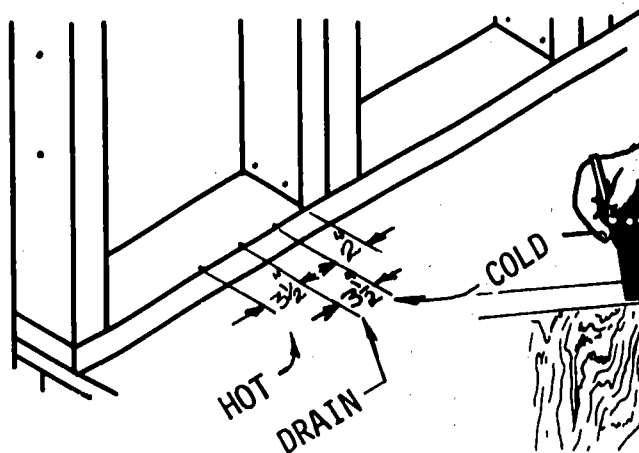

Fig. 97-1. Measuring for Pipes
1. Follow the procedures shown in Figs. 97-1, 97-2, 97-3. Using a steel tape and a try square, demonstrate how to locate on a sole plate the centers of the holes for the plumbing pipes.